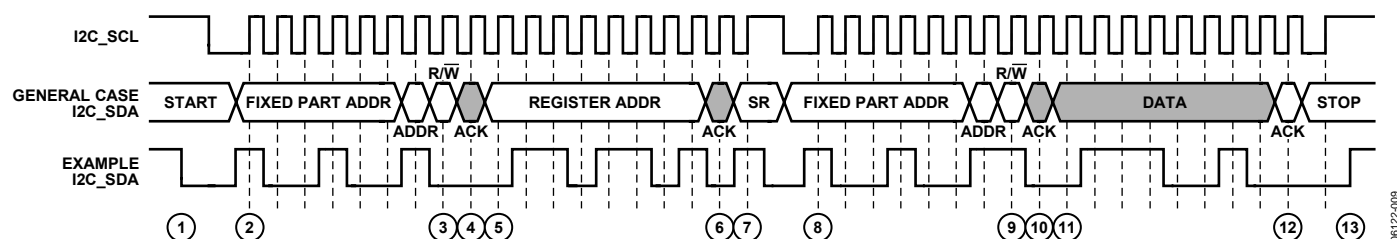

Figure 30. I²C Read Procedure
To read data from the AD8190 register set, an I²C master (such as a microcontroller) needs to send the appropriate control signals to the AD8190 slave device. The signals are controlled by the I²C master unless otherwise specified. For a diagram of the procedure, see Figure 30. The steps for a read procedure are as follows:
9. Send the read indicator bit (1).
- a. Send a stop condition (while holding the I2C_SCL line high, pull the SDA line high) and release control of the bus to end the transaction (shown in Figure 30).